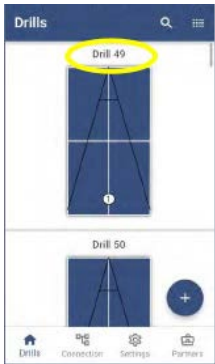

Figure 3-34
1. Choose a Drill from the main Drills screen (Example: Drill 49) that you'd like to change the name of. (Figure 3-34)